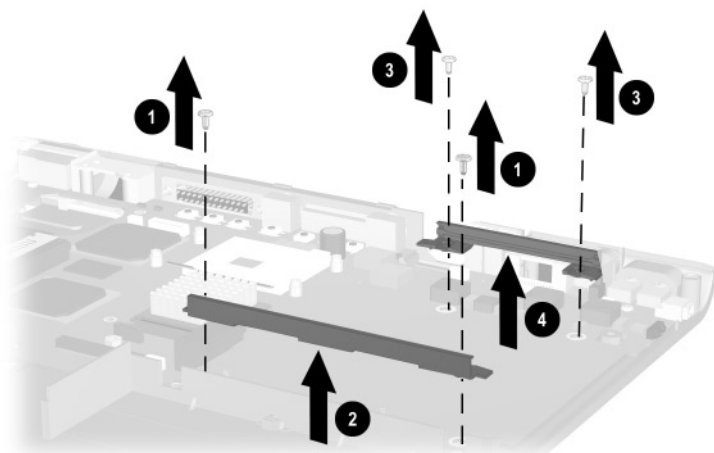

Figure 5-43. Removing the Optical Drive Alignment Rails
2. Remove the two TM2.5 × 5.0 screws ❶ that secure the optical drive front alignment rail to the base enclosure (Figure 5-43).
3. Remove the front alignment rail ❷ from the base enclosure.
4. Remove the two TM2.5 × 5.0 screws ❸ that secure the optical drive rear alignment rail to the base enclosure.
5. Remove the rear alignment rail ❹ from the base enclosure.